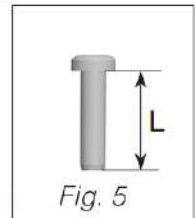

Fig. 5
- 4** Install the new STEPPER MOTOR pressure regulator assembly, as shown in Fig. 3 and Fig. 4. Use the supplied screws (F), M4 x 0.7 threaded, length of thread  $L=(16\text{ mm} + 0 - 0.5\text{ mm})$ , steel material, resistance class 8.8 (see Fig. 5).